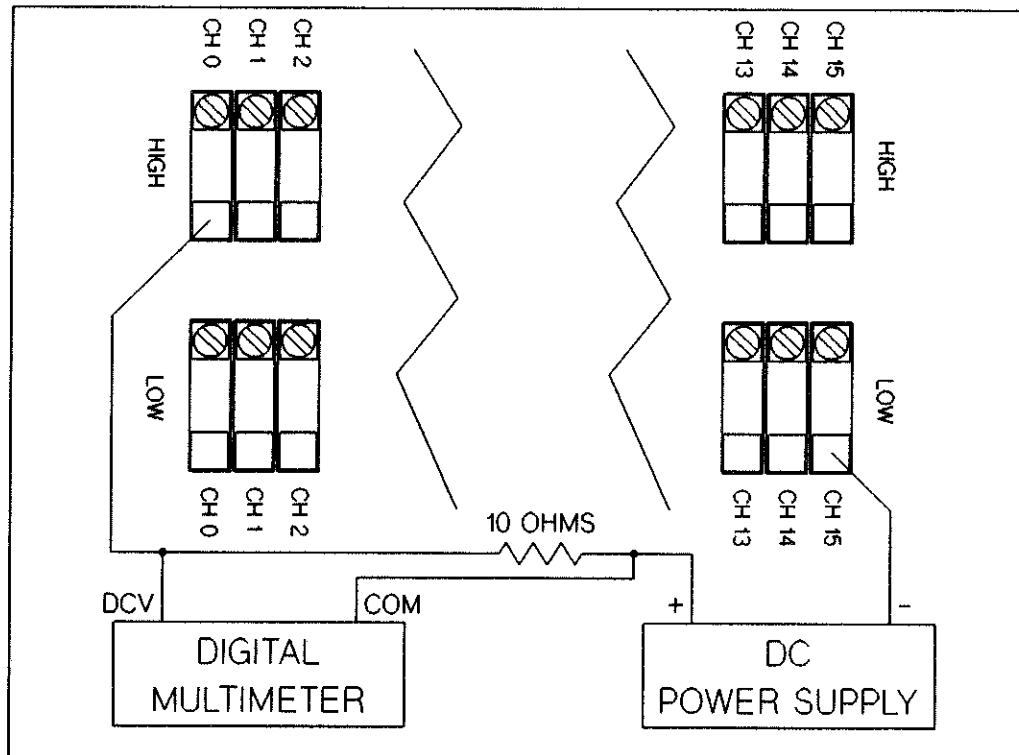

Figure 13-7 Even Channel Sink Current Test Set-Up
4. Set the power supply to output approximately +5 V dc. Connect the 10 ohm resistor (**R**) between the power supply + output and the even channel **HIGH** connections on the test fixture. Connect the power supply's - output to the shorted **LOW** connections on the test fixture. The connections are shown in Figure 13-7.
5. Set the multimeter to measure dc volts. Connect the DCV (HI) input of the multimeter to the shorted even channel **HIGH** connections on the test fixture. Connect the multimeter COM (LO) input to the + output on the power supply. The connections are shown in Figure 13-7.